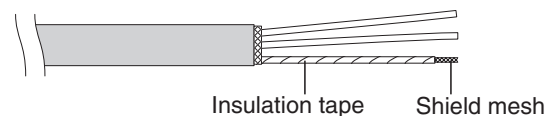

Fig. 2-9
- (2) Ravel braided shield carefully and put tightly braided shield together. Coat with insulation tube or wrap insulation tape after putting tightly. (Fig. 2-9)